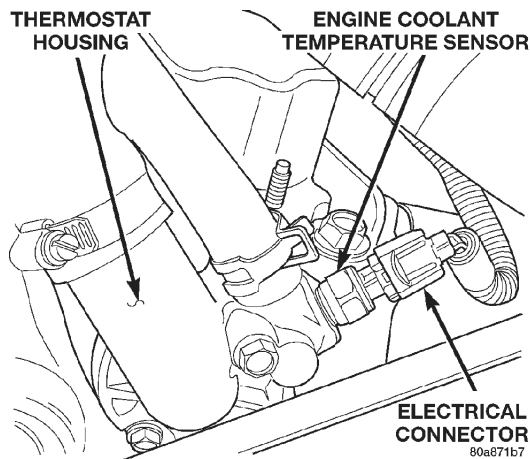

Fig. 22 Engine Coolant Temperature Sensor—Typical
(19) Verify wire harness connector is firmly connected to engine coolant temperature sensor (Fig. 22).